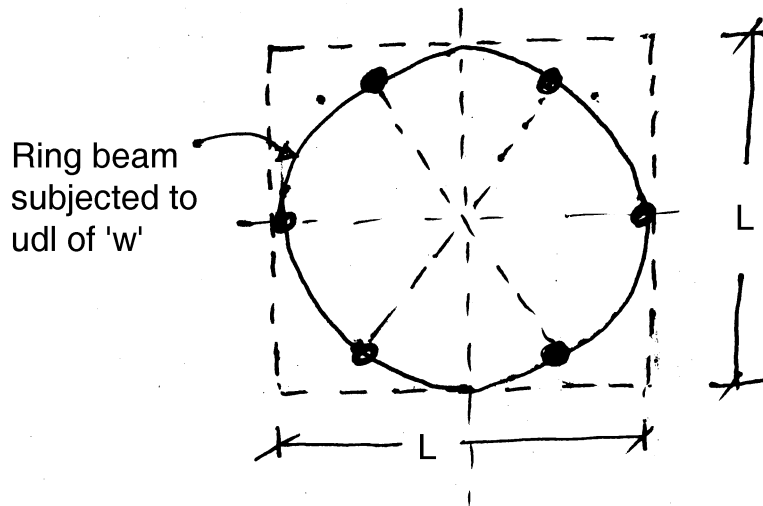

Fig. 3
2. A circular ring beam is supported on 6 columns symmetrically placed forming a square of side  $L$ . The ring beam is subjected to a UDL of ' $w$ ' throughout the length. Draw BMD and TMD. Refer Fig. 3. 12